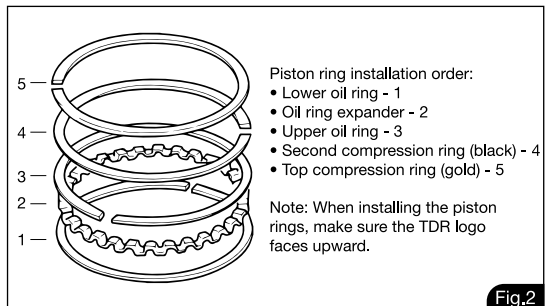

Fig.2
2. Perform porting and polishing on the intake and valve ports to improve airflow. (Fig. 2)
3. Install the piston rings onto the piston in the correct orientation. (Fig. 2)